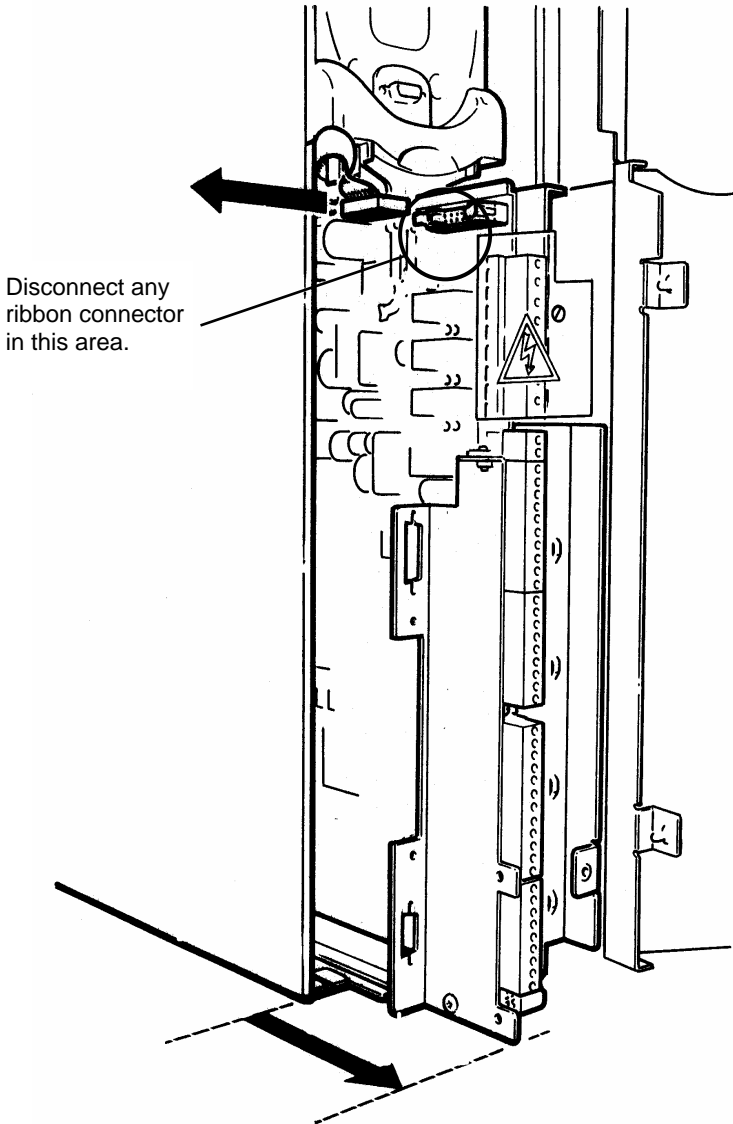

Figure 3-2 Drive module – removing the CDC cassette
- Slide the CDC cassette completely forward out of the drive, disconnecting any ribbon connectors located at the top of the board, (see Figure 3-2), and noting their positions for ease of re-connecting.